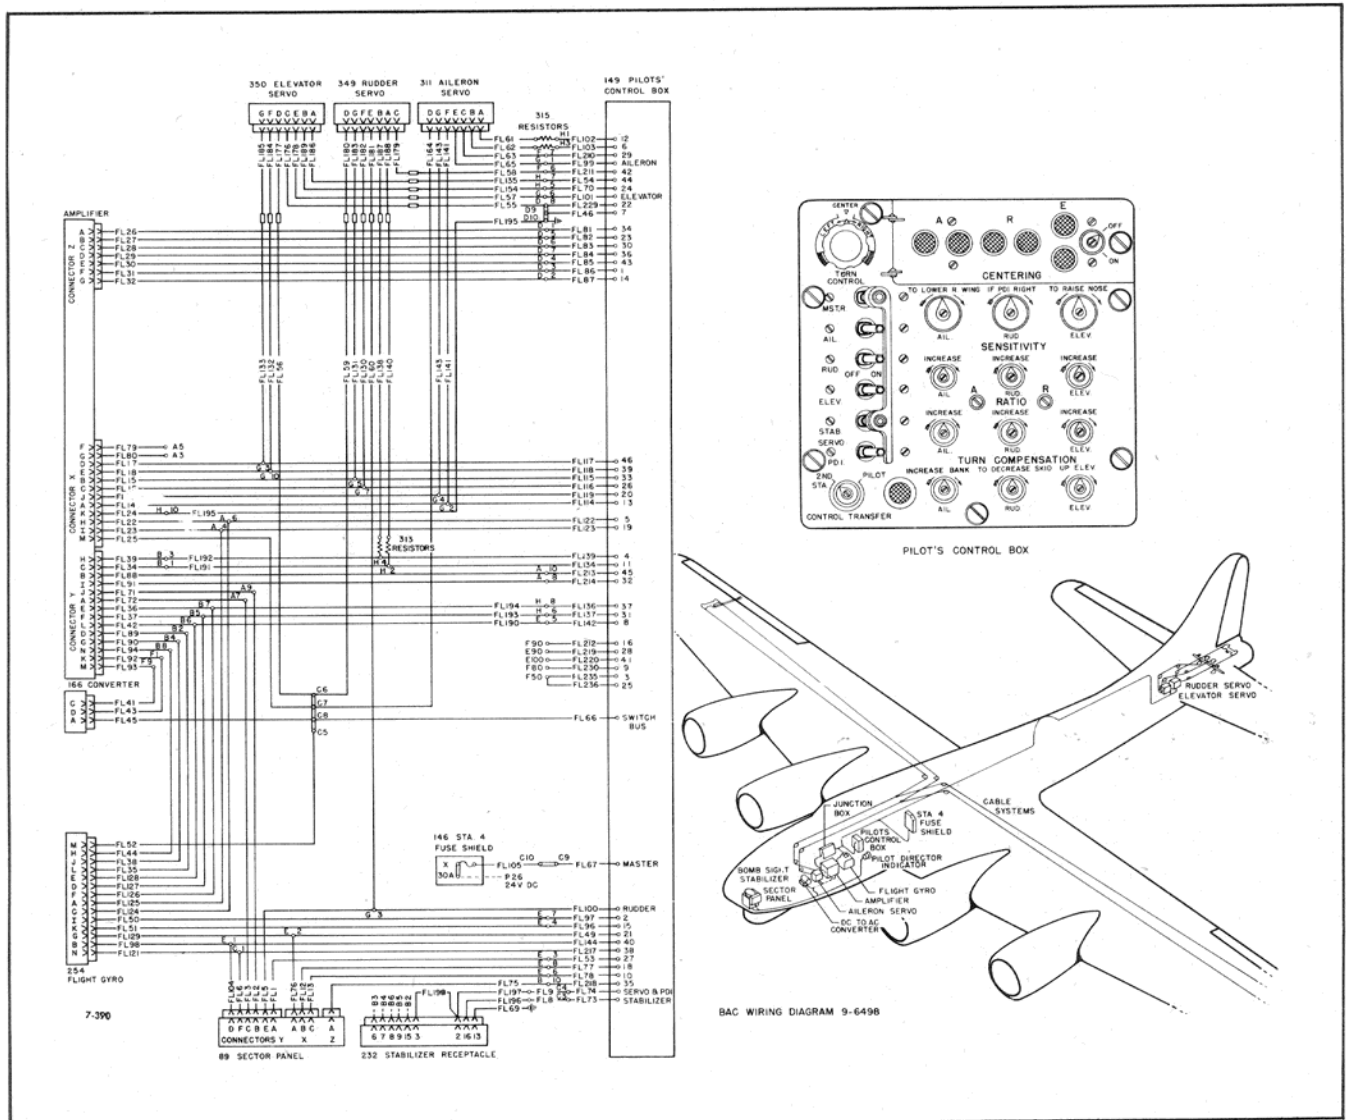

Figure 260—C-1 Autopilot Circuit (F L)
2. While reading the following explanation, assume that the autopilot is in operation and that the airplane in figure 260, is flying straight and level. Assume that a cross-wind suddenly turns the airplane away from its established heading (direction). The gyro-operated directional stabilizer (1) in the bombardier's compartment will detect or sense this deviation and move the directional panel to one side or the other, depending upon the direction of the deviation.
3. Banking pot and rudder pickup pot are electrical devices in the directional panel which send signals to the aileron and rudder section of the amplifier (3) whenever the directional panel is operated. The amplifier amplifies the signals and converts them by means of magnetic switches (relays), into electrical impulses, which are applied to the aileron and rudder servo units, causing them to operate the ailerons and rudder of the airplane in the proper direction and amount to turn the airplane back to its original heading.